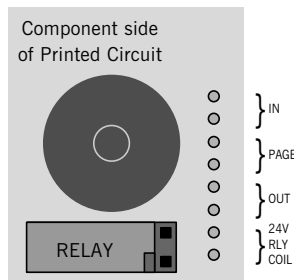

Figure 2. Showing relay in the OV to over-ride position.
For special applications this mode of operation may be reversed so that removal of 24 volts initiates volume restoration. Should the unit be required to operate in this mode the relay must be removed from its socket and replaced in the alternative position as shown in Fig. 2. To do this proceed as follows:
4. Keeping the relay the same way round relative to the socket, move it to the position shown in Fig. 2, align the pins and press home firmly.